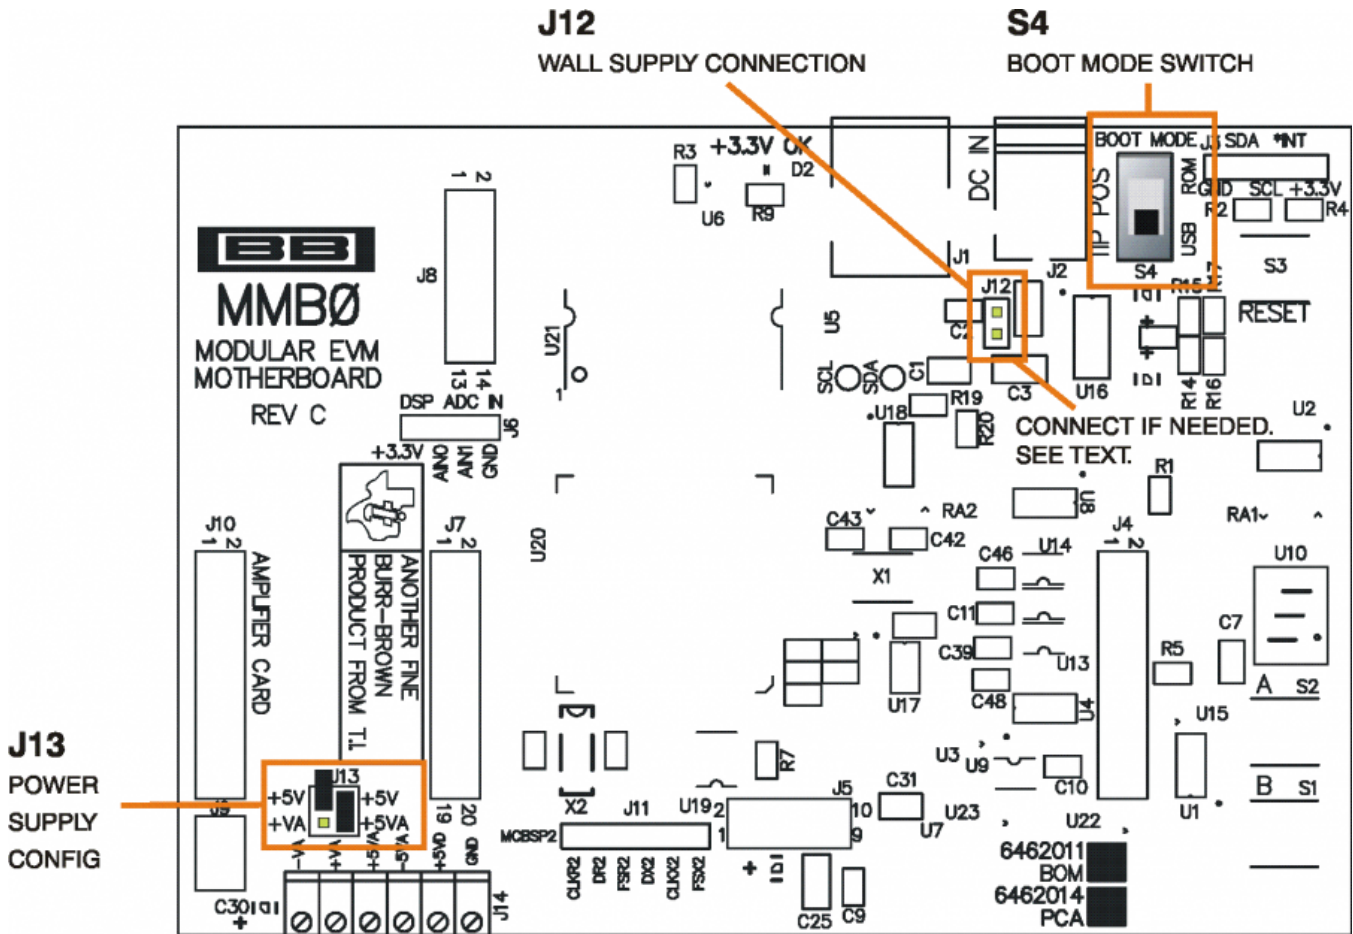

Figure 3. MMB0 Initial Setup
Step 2. Set the jumpers and switches on the MMB0 as shown in Figure 3.